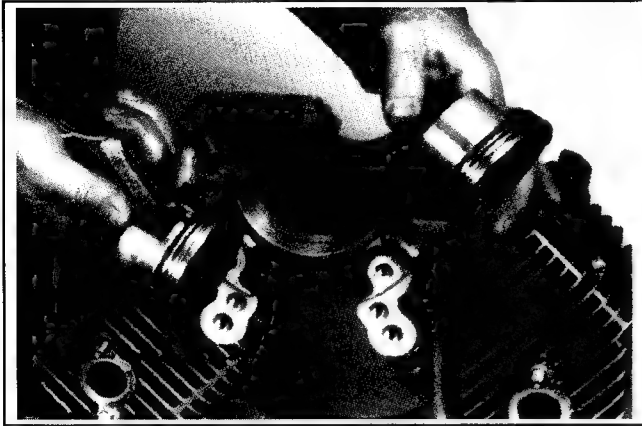

Figure 9-58. Piston Assemblies Removed.
1. Pull the piston assemblies out of both cylinders. See Figure 9-58. If reusable, mark the connecting rods and pistons to match the caps. Remove and discard the piston rings.